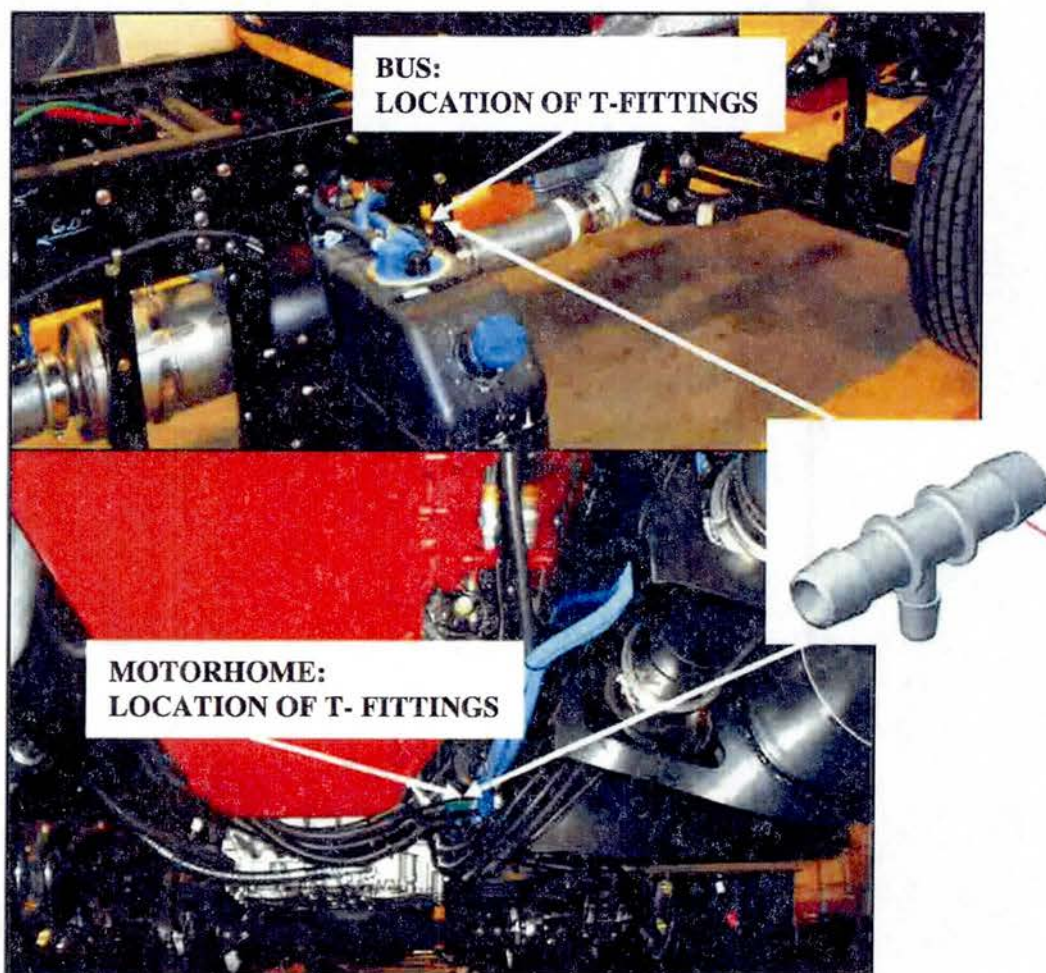

FIG. 2-1
1. Locate T-fittings on the passenger side behind the DEF tank under the rail. Refer to FIG. 2-1.